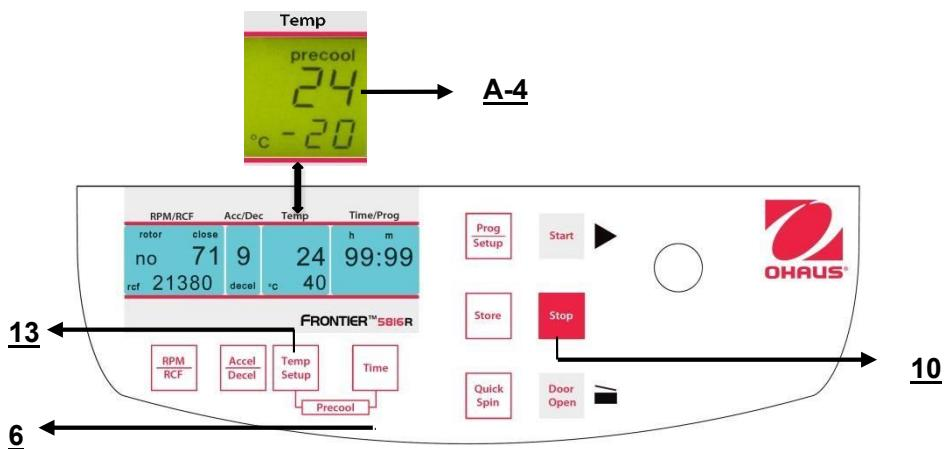
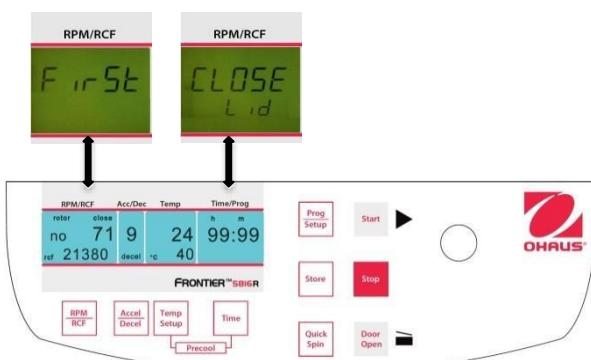

Figure. 23
Figure. 26
Close the lid of the centrifuge. Now proceed as described previously to set all important run parameters. If the lid isn't closed when storing the program, in the display "RPM/RCF" (A-1), the words "FirSt" and "CLOSE Lid" (See figure 23) flashes alternately. If you want to start the run without storing the program, in the display "RPM/RCF" (A-1), the words "First" and "PrESS StorE" (See figure 26) flashes alternately.
For adaption of data press the key "**Store**" (12) (refer to figures 26 and 27) for approx. 1 second. If the program is stored correctly, the word "**StorE**" appears in the display "**RPM/RCF**" (A-1). As a result, the word "**programm**" (M10) disappears.
You can start the centrifuge either with the "**Start**" key (9) (refer to figure 26) or the "**Quick Spin**" key (8).